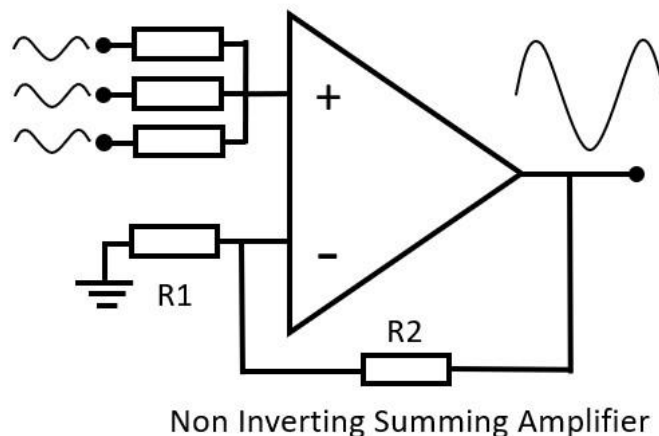

Figure 5: Non-inverting summing amplifier.
4. **The non-inverting summing amplifier** is used to combine the voltages present on two or more inputs into a single output voltage. As it is noninverting, the output will be in phase with the input. The gain of the amplifier is determined by the ratio of R_1 and R_2 (Figure 5).